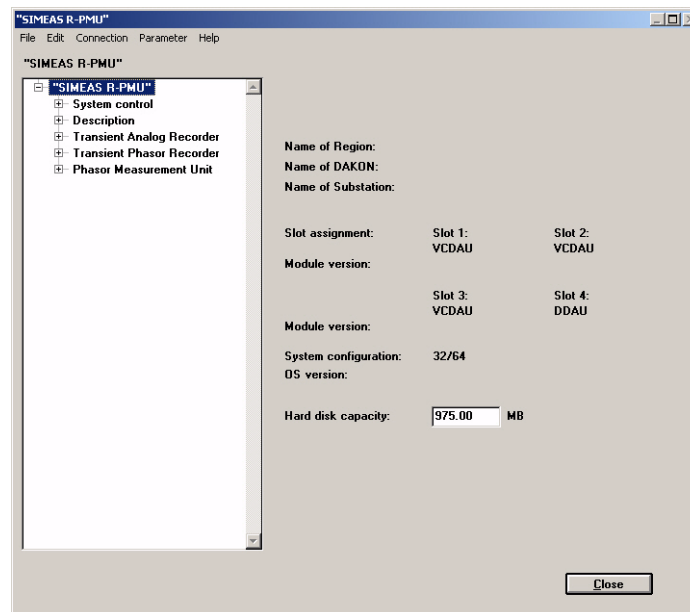

Figure 12-2 Dialog box for setting the SIMEAS R-PMU parameters
- ☐ Open the device (see Figure 12-2) from which you want to copy the slot.